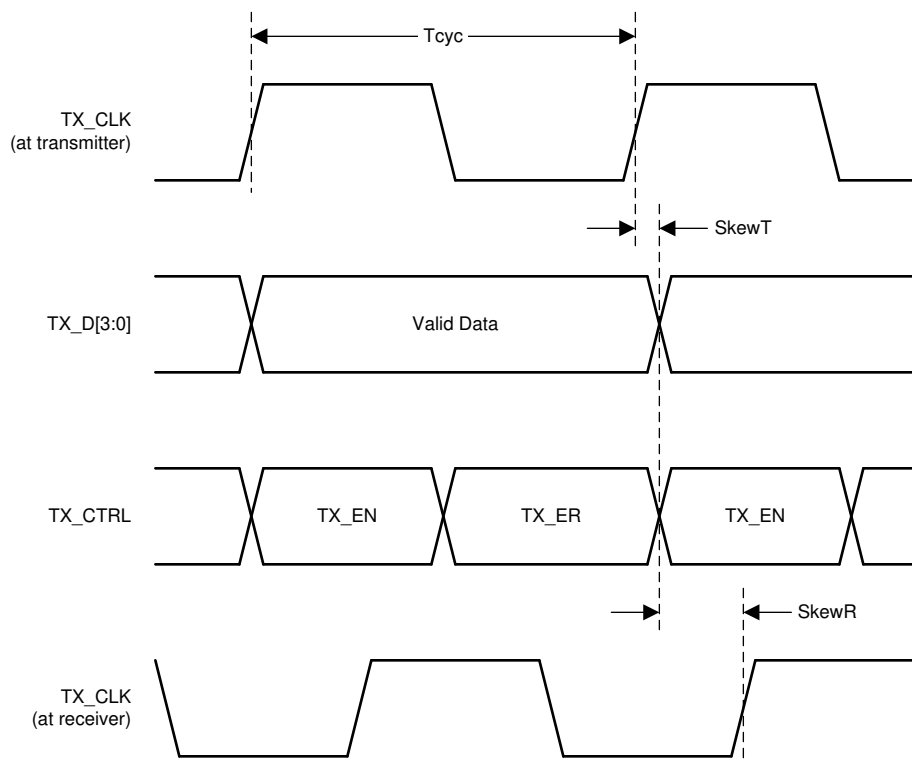
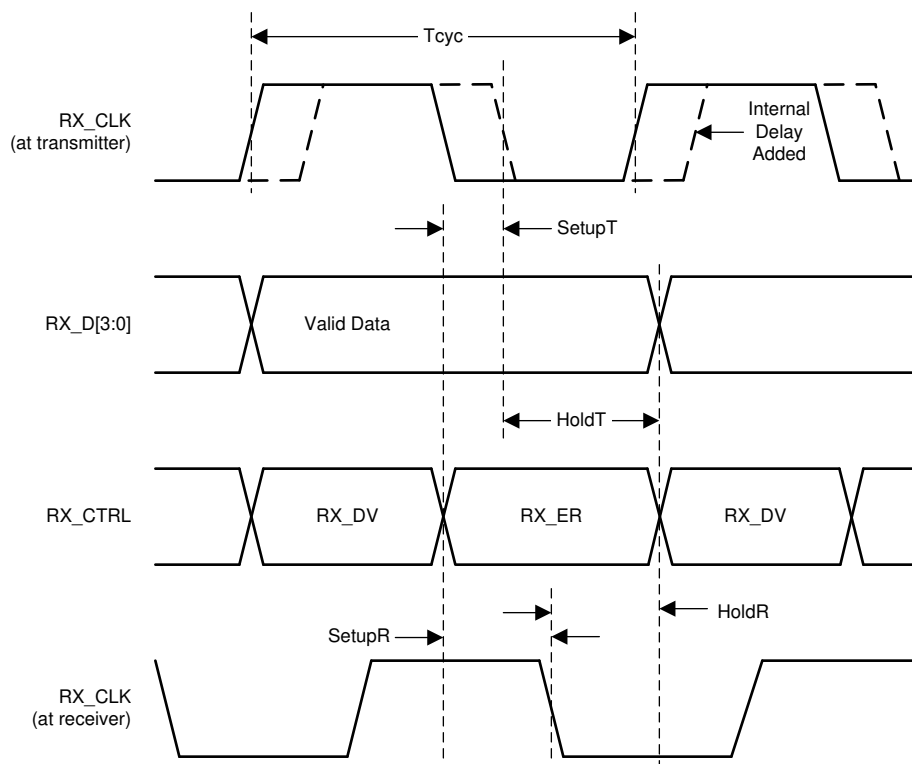

Figure 6-11. RGMII Transmit Timing
Figure 6-12. RGMII Receive Timing
(1) Specified by production test, characterization or design.
(2) When operating without RGMII internal delay, the PCB design requires clocks to be routed such that an additional trace delay of greater than 1.5ns is added to the associated clock signal.
(3) Device can operate with or without internal delay.
(4) The duty cycle can be stretched or shrunk during speed changes or while transitioning to a received packet's clock domain as long as minimum duty cycle is not violated and stretching occurs for no more than three Tcyc of the lowest speed transitioned between.
(5) See Figure 6-11 and Figure 6-12.